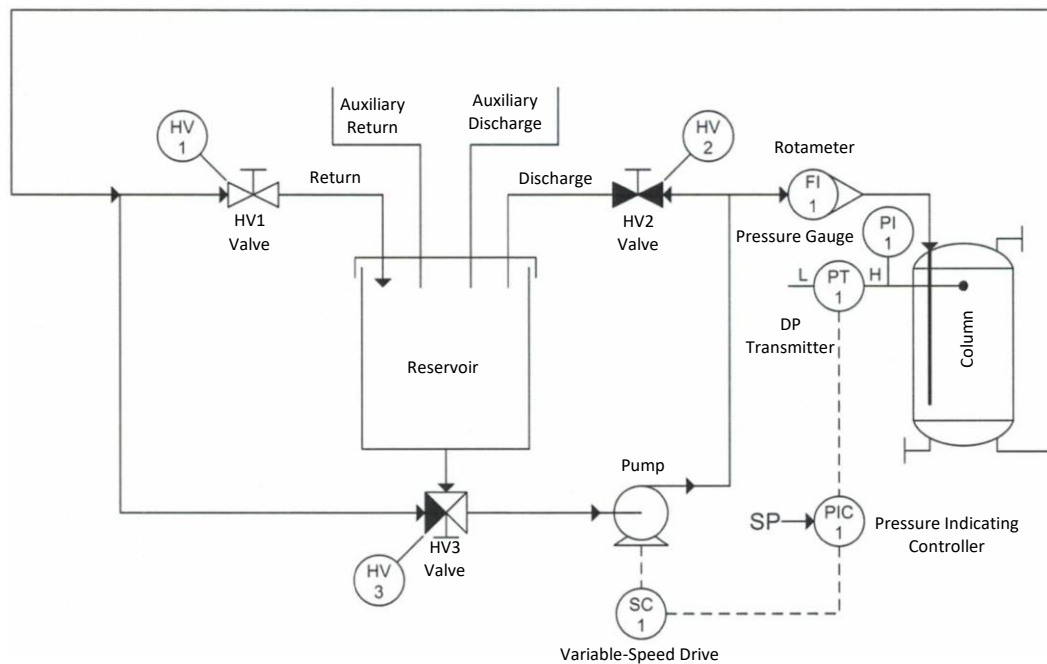

Figure 1: Flow Diagram: Feedback Control of a Pressure Process
1. Set up the Pressure Process shown in Figure 1.